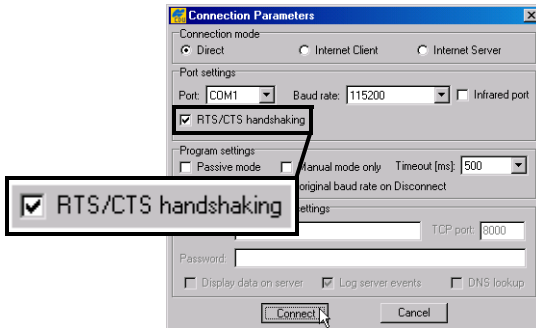

Figure 4-6. Connection Parameters – RTS/CTS Handshaking
2. On the **Connection Parameters** dialog box, enable *RTS/CTS handshaking* (Figure 4-6).